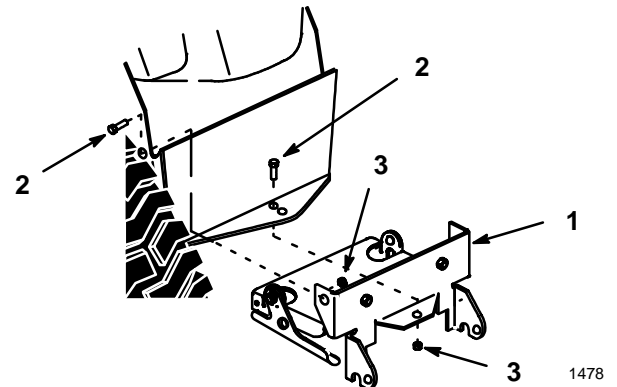

Figure 6
3. Install rear mounting plate\blade bracket assembly under and inside rear frame member with short tongue rearward (Fig. 6).
4. Secure with (3) 1/2 x 1-1/4" bolts and 1/2" lock nuts at holes in frame side members and tractor hitch forward hole (Fig. 6).